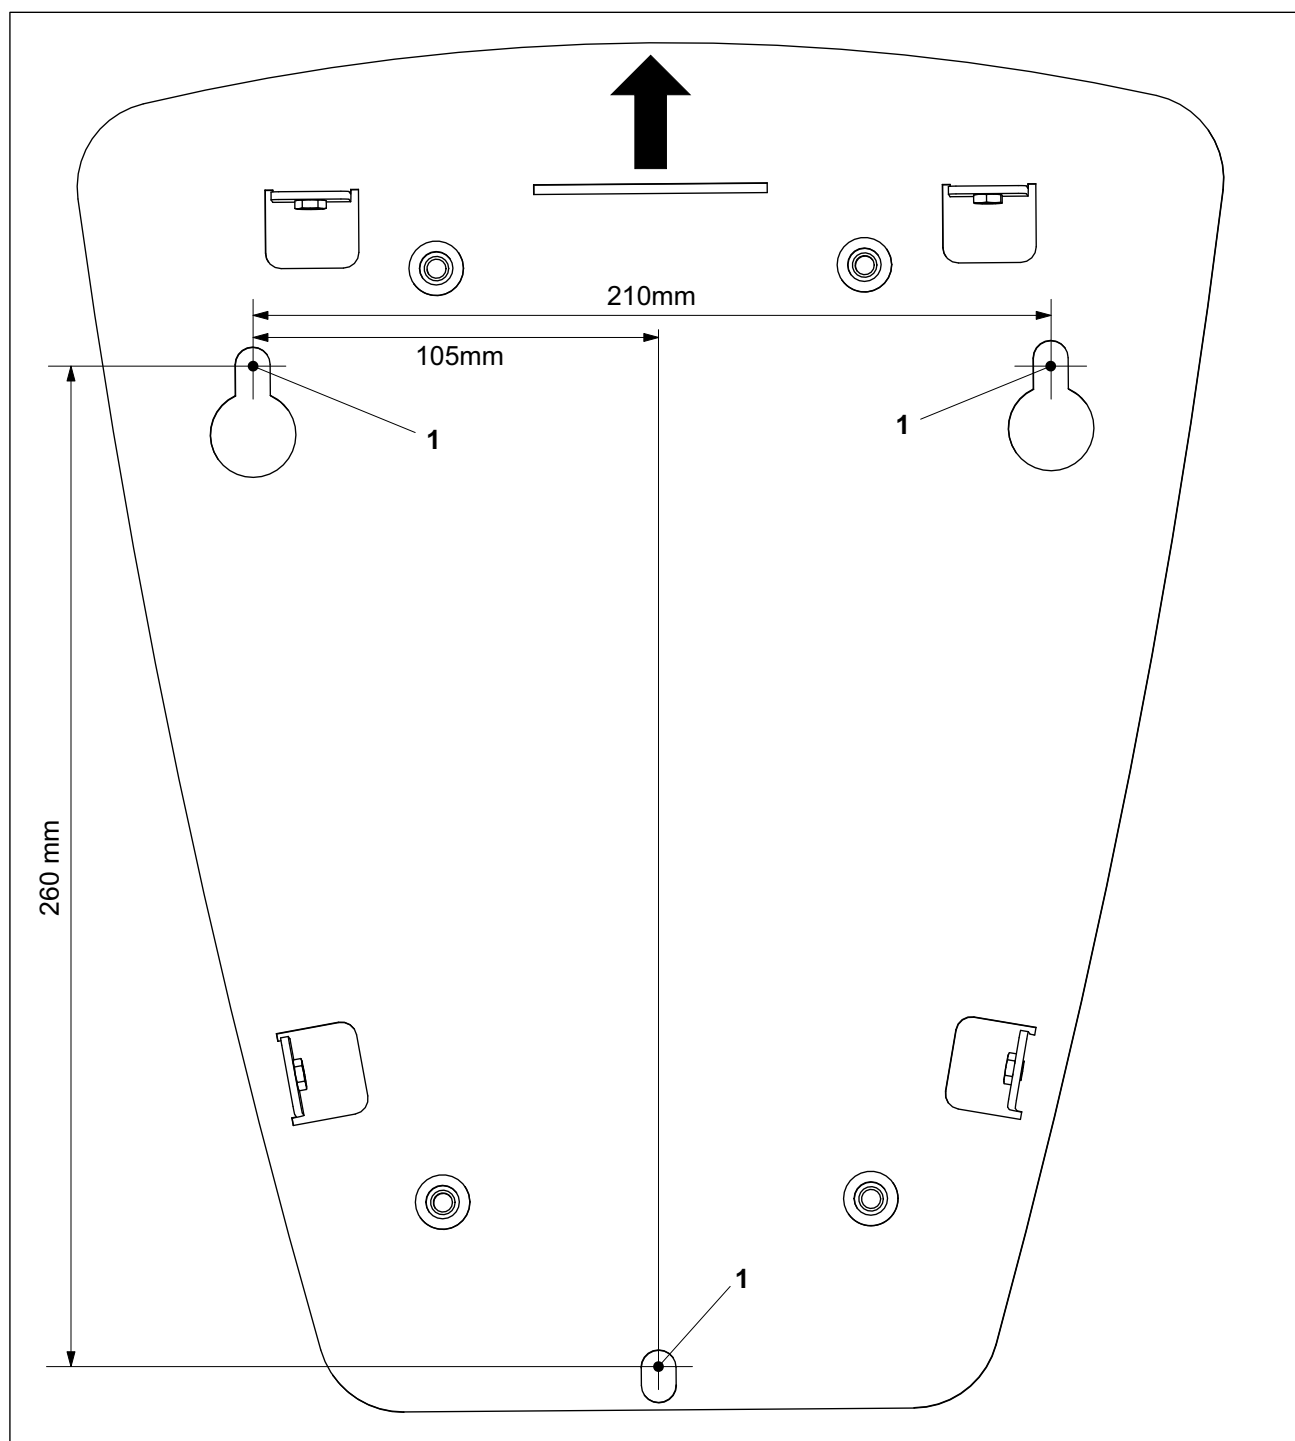
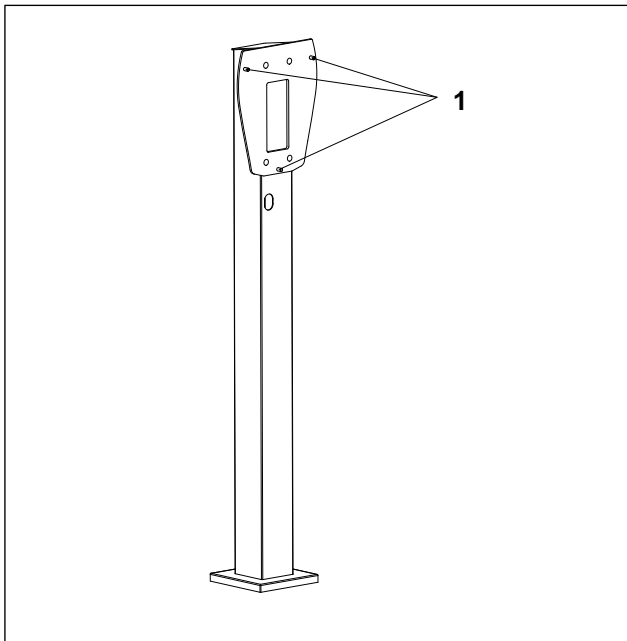

Fig. 1 Drilling plan for the Wallbox Energy Control
Fig. 3 Column with three attachment points
1. Mark the three mounting holes (Fig. 1/1) as shown on the drilling plan.
1. Hang the mounting plate of the Wallbox (Fig. 1/1) on the three stud bolts of the column (Fig. 3/1).
2. Screw the three nuts (separate parts set for the column) on the stud bolts (Fig. 3/1) and tighten (approx. 12 Nm).